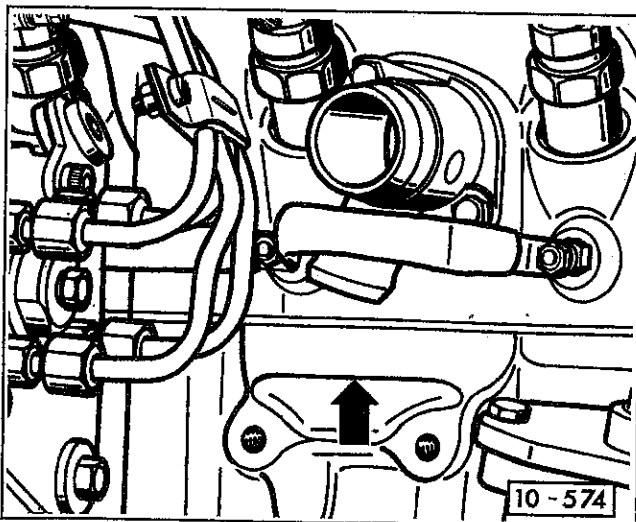

Fig. 3. Engine number location (arrow) on AAZ diesel engine shown. AHU diesel is similar.
- **AAZ and AHU engine** code letters and engine number are located between the injection pump and vacuum pump on the cylinder block. See Fig. 3.